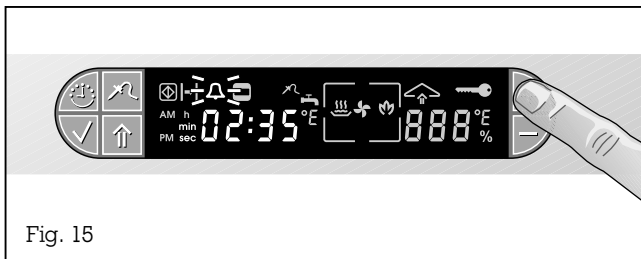

Fig. 15
- Press the + key. The short time symbol Δ flashes (Fig. 15).